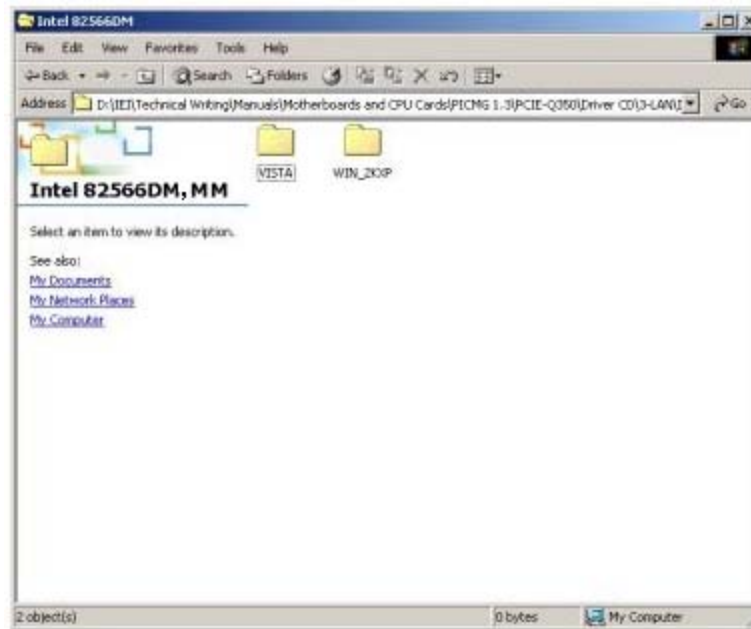

Figure 7-17: Intel® 82566 Operating System
Step 2: The window in **Figure 7-17** appears.
Step 3: Select the Operating System in **Figure 7-17**.